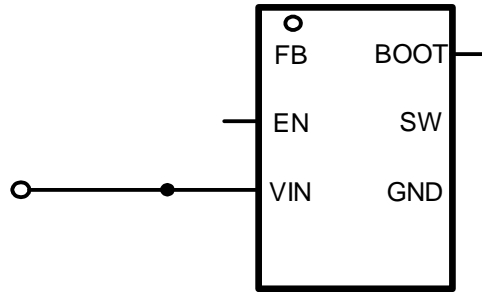

Figure 12. 24V Input, 5V/2A Output
The SCT9320 features external programmable output voltage by using a resistor divider network R1 and R2 as shown in the typical application circuit Figure12. Use equation (11) to calculate the resistor divider values.